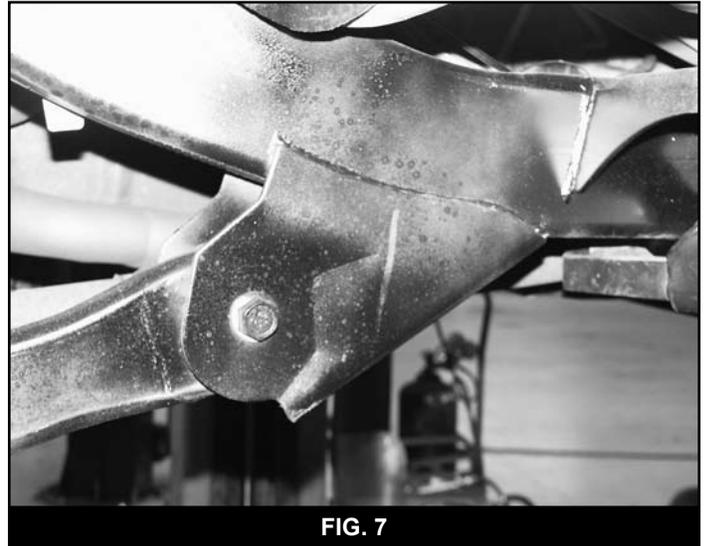

FIG. 7
18. The front lower control arm pockets must be removed from the frame to provide clearance for the new long lower control arms (Fig 7). Cut the pockets completely off of the frame using a cut-off wheel and/or reciprocating saw. Take special care not to cut into the frame. Grind that area smooth with a medium grit grinding wheel and paint all bare metal to prevent corrosion. The mounts must be removed completely.